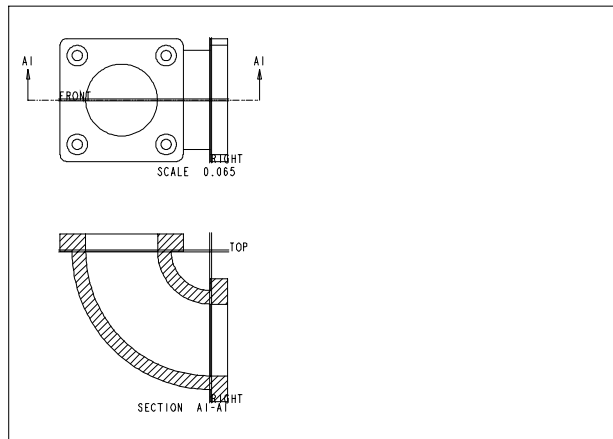

Figure 12-51 Drawing sheet after generating the top view and the sectioned front view with the display of datum planes turned on
- b. Generate the top view, refer to Figure 12-51.
- c. Generate the sectioned front view by defining the **FRONT** datum plane as the section plane, refer to Figure 12-51.
If necessary, move the view, as shown in Figure 12-51, and choose **No Hidden** from the **Model Display** toolbar. You may also need to repaint the screen.
2. Specify the center point for the placement of the front view below the top view, as shown in Figure 12-51.
4. Click once in the drawing area to remove the X-hatch from the current selection set. The sheet, after placing these two views, should look similar to the one shown in Figure 12-51.